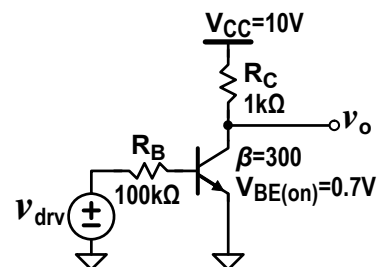

Figure 3. Switching circuit
3. For the circuit given in Figure 3, derive an expression for $v_O = v_C$ as a function of v_{drv} . Specify the v_{drv} levels where the transistor turns off completely ($i_C = 0$) and it goes into saturation ($i_C < \beta i_B$).
3.a) Build the circuit given in Figure 3. Increase v_{drv} slowly, from **0V** up to the value where v_o becomes constant. Record at least 10 values in order to plot a v_o versus v_{drv} graph.